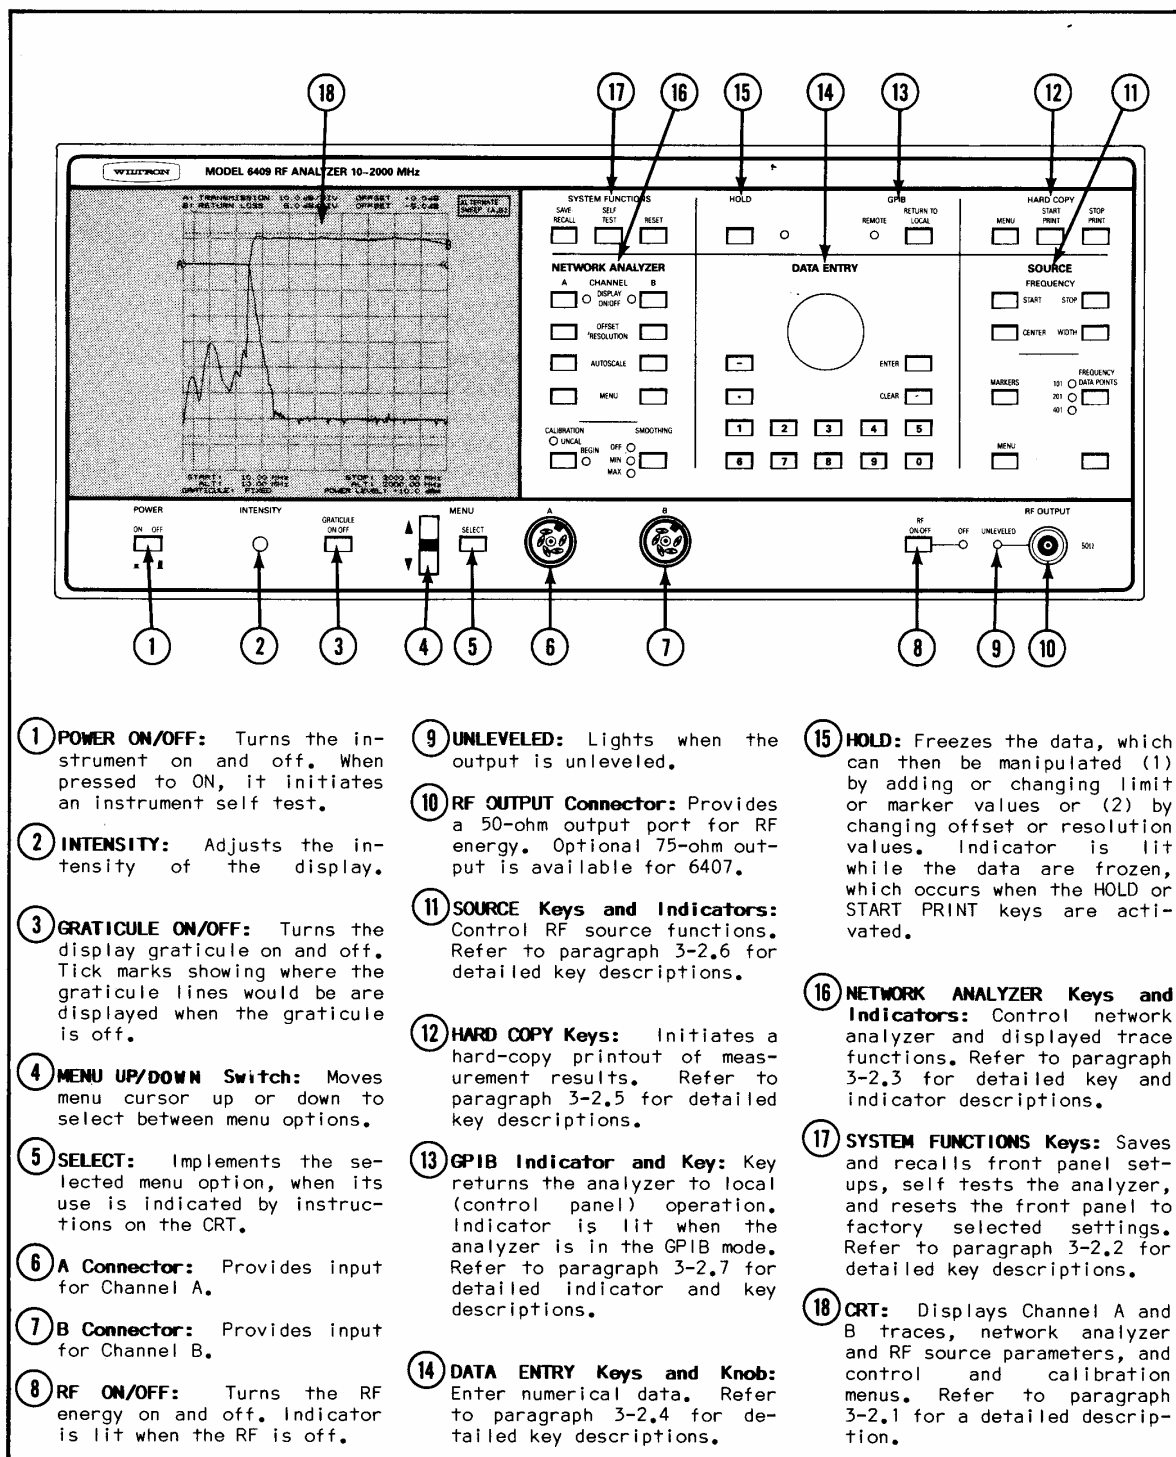
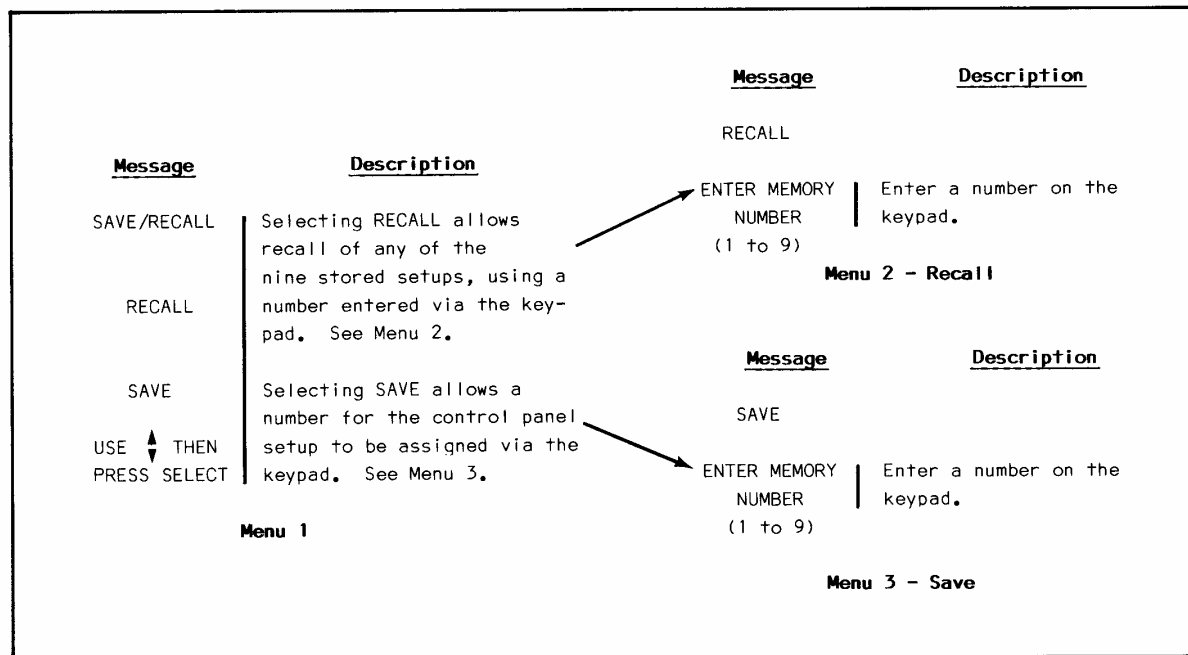

Figure 3-1. Model 6409 RF Analyzer Front Panel Controls
Figure 3-4. SAVE/RECALL Key Menus
Operation of the control panel controls is described in Figure 3-1 and in paragraphs 3-2.1 thru 3-2.7.
- a. SAVE/RECALL Key: Displays a menu (Figure 3-4) that lets the operator SAVE the current control panel setting or RECALL any of nine stored front panel setups. The MENU rocker switch (Figure 3-1) is used to make the selection. Should this key be pressed and then not wanted, the DATA ENTRY CLEAR (Figure 3-10) key can be used to cancel the key action.
- c. **RESET Key:** Displays a menu (Figure 3-5) that lets the operator use the MENU SELECT key (Figure 3-1) to restore the factory-selected control panel settings. The settings for the 6409 and 6407 (in parenthesis) are shown below.
PRESS SELECT TO BEGIN CALIBRATION	Press the MENU SELECT key (Figure 3-1) to display the first calibration menu.